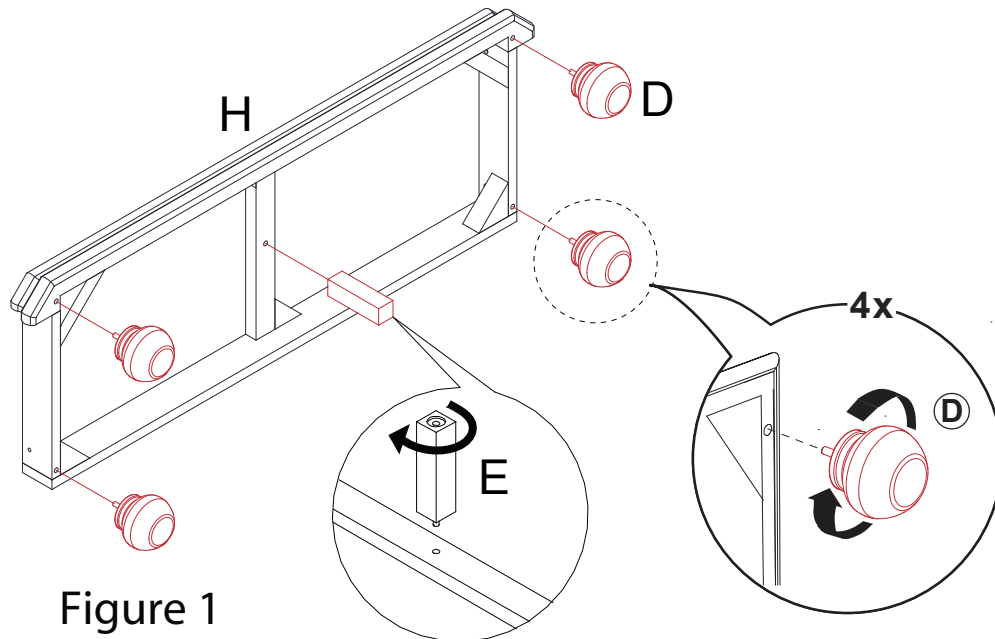

Figure 1
- 1 Attach Feet rail (D) & Adjustable Post (E) to Bottom Frame (H) as Figure 1.
1. Working on a padded flat surface, attach Drawer Sides (R1&R2) to Drawer Back (R3) with Drawer Screw(j). *Figure 1*